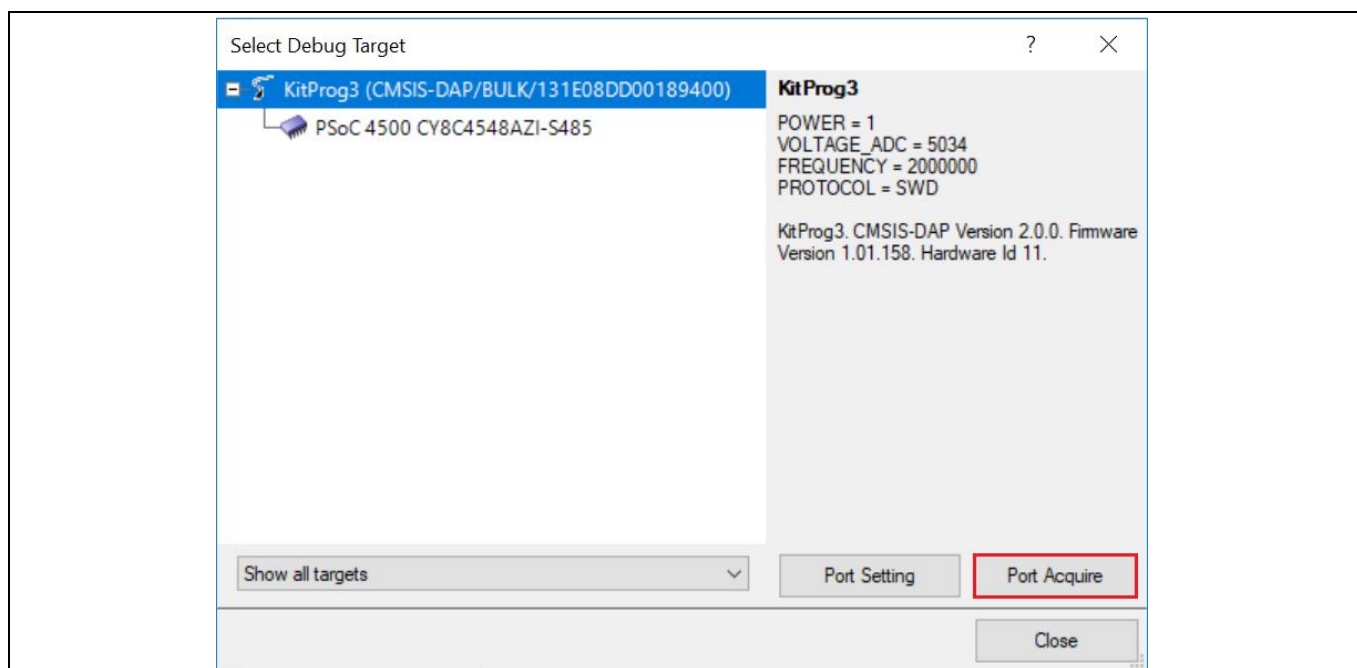

Figure 16 Port Acquire
7. If the device is already acquired, programming will complete automatically and the result will appear in the PSoC Creator status bar at the bottom left side of the screen. If the device is yet to be acquired, the **Select Debug Target** window will appear. Select **KitProg3/<serial number>** and click the **Port Acquire** button, as shown in Figure 16.